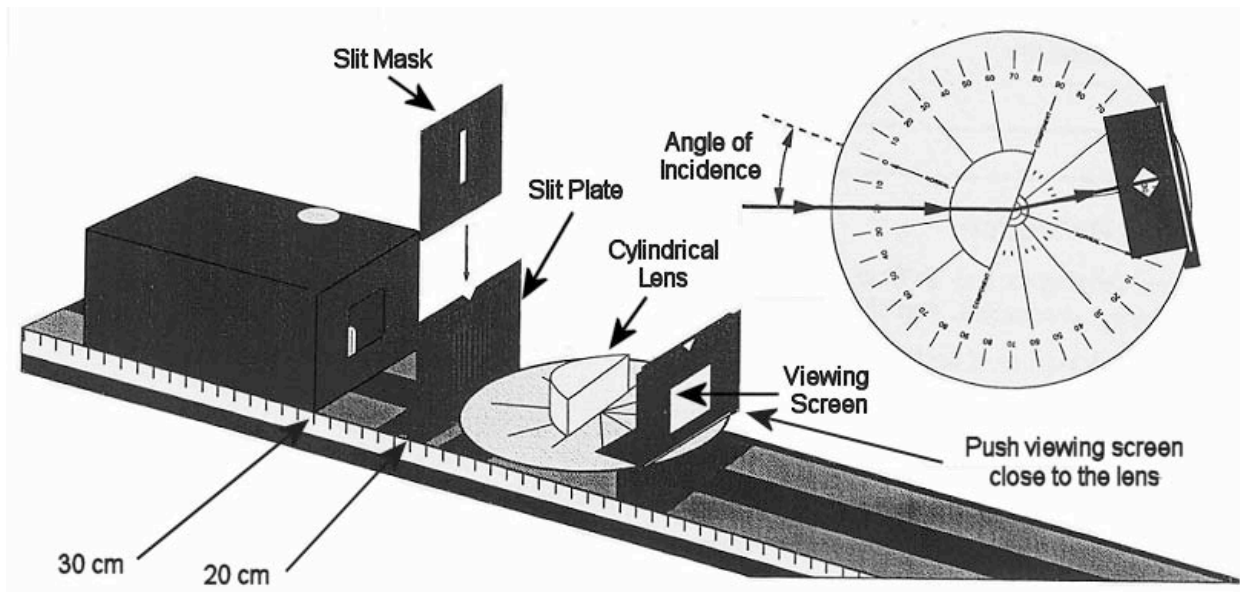

Figure EP09.1 Equipment Setup – The Colors of Light
1. Open up the Pasco Introductory Optics Box and remove and assemble the optical bench components shown in Figure EP09.1.